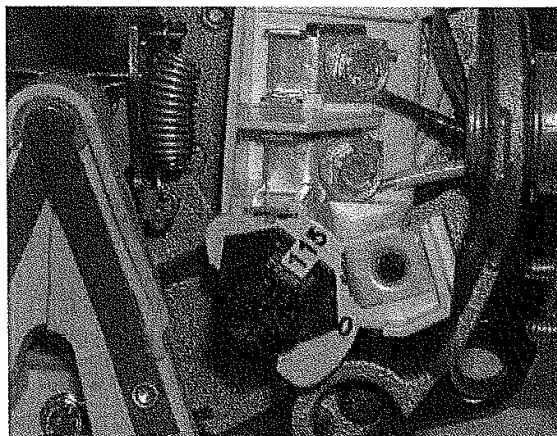

Figure 4: Motor Set for 115 Volt Operation
**IMPORTANT:** 115/230 Volt single phase models are shipped from factory with motor wired for 230 volts. If power supply is 115 volts, remove motor canopy and reconnect motor as shown in Figure 4. Do not try to run motor as received on 115 volt current.